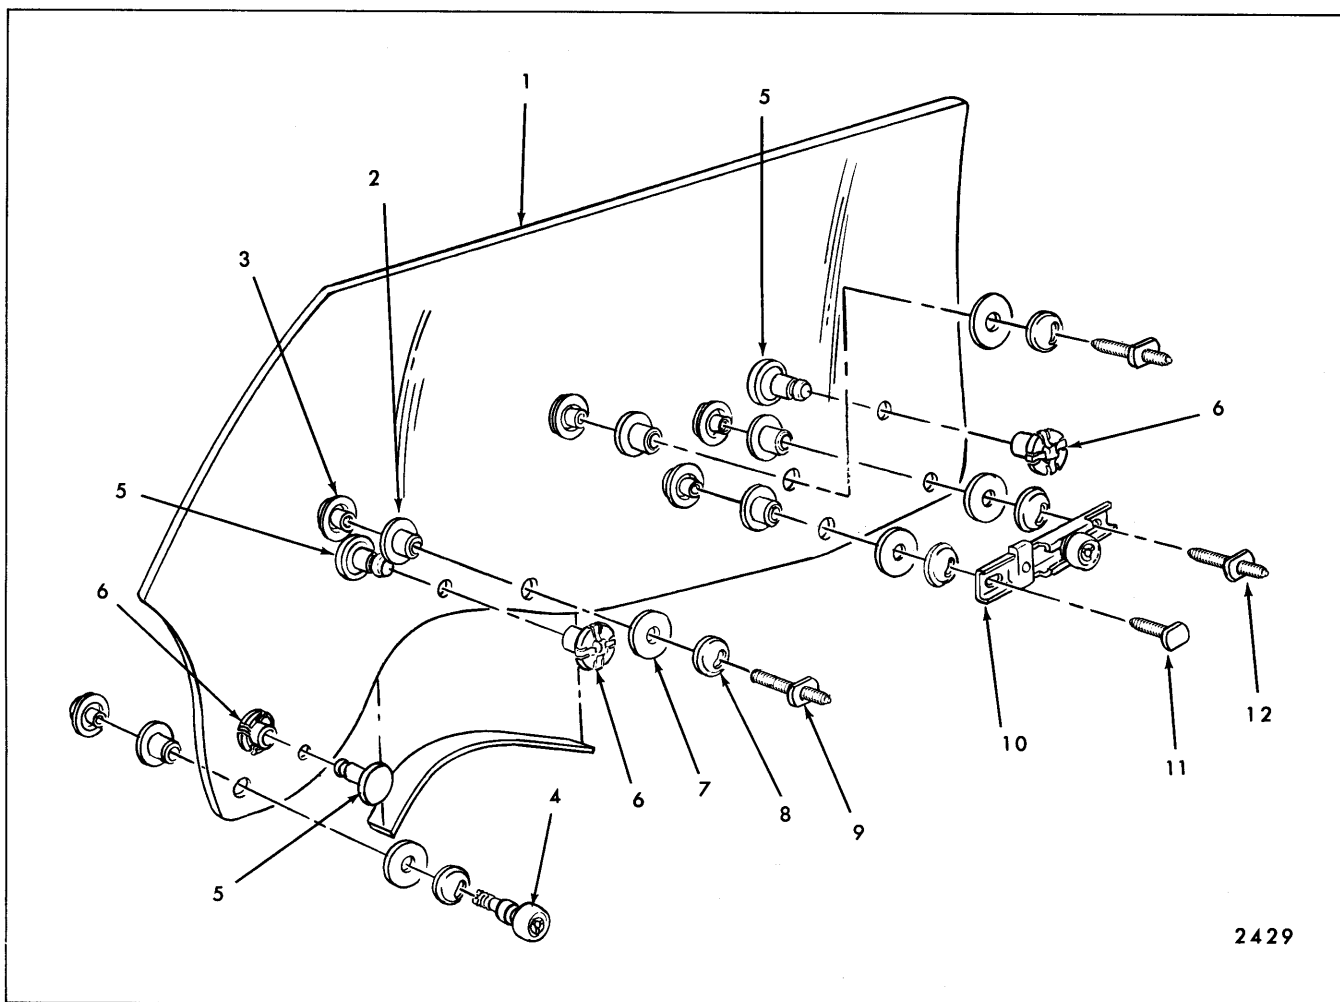

Fig. 6-70—Front Door Window Assembly - 16647 and 26657 Styles
Figure 6-70 is an exploded view of the window assembly and identifies the various components and their assembly sequence.
2. Fore and aft adjustment of the window assembly is controlled by the position of the front guide. The upper and lower attaching locations in the inner panel ("8", Fig. 6-44) are slotted to permit fore and aft adjustment of the guide. Because of the free floating roller in the window rear sash channel cam (Fig. 6-70), the rear guide does not have to be adjusted during fore or aft window alignment.